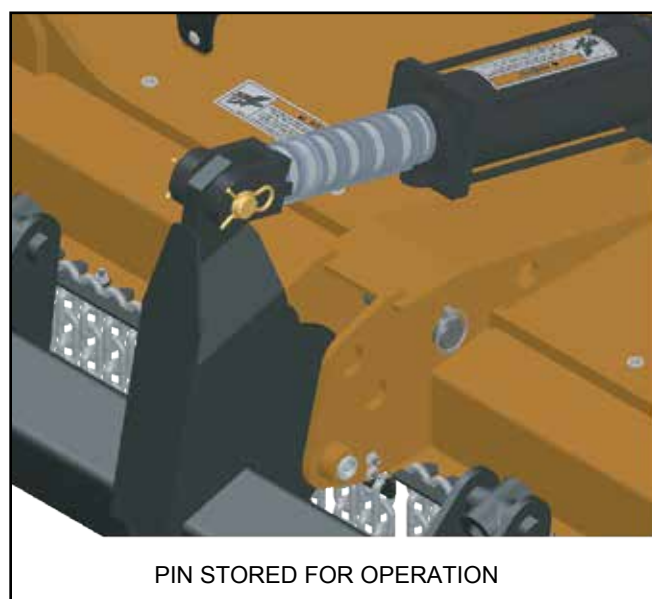

Figure 4. Transport Lock Pin In Operation Position
- 4. To lower cutter for operation, extend hydraulic cylinder to raise cutter. Move lock pin from lock position to storage position (Figure 4).